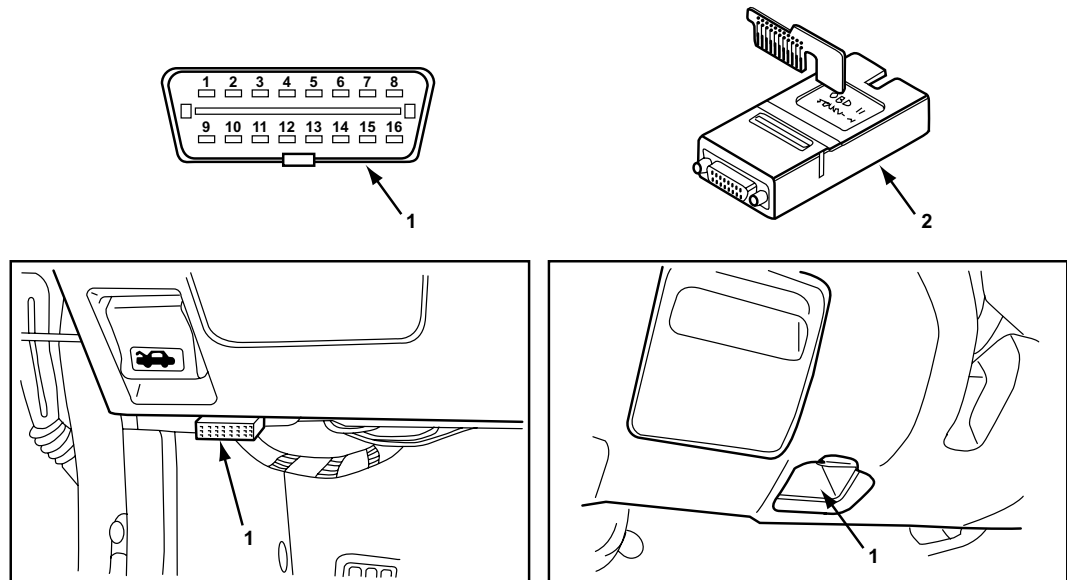

Figure 15-55 16-Pin OBD-II connector and common locations
1. Use the OBD-II adapter with the specified Personality Key™ device (Figure 15-55).